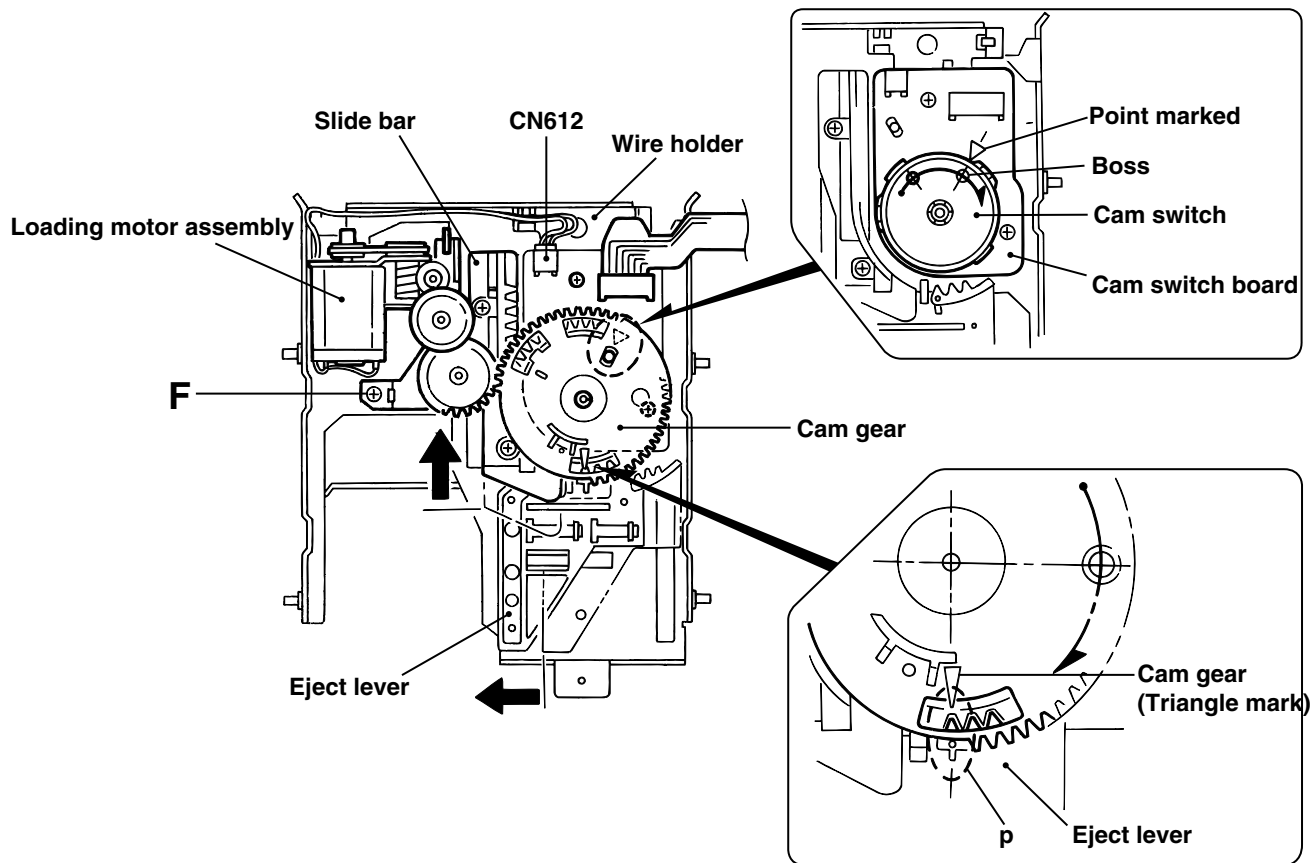

Fig.23
5. Reattach the cam switch board using the two screws **H**. (**Fig.23**)
6. Turn the cam switch to bring the boss to the point marked Δ on the cam switch board. Reattach the cam gear using a slit washer while fitting the cam gear slot to the cam switch boss. (**Fig.23**)
ATTENTION: When reattaching the cam gear, the cam switch boss should be fitted to the cam gear slot, and the triangle mark of the cam gear should be aligned to the hole(part **p**) of the eject lever as shown in **Fig.23**.
7. Reattach the loading motor assembly, using the screw **F**. Connect the harness extending from the loading motor to connector CN612 on the switch board and fix it with the wire holder. (**Fig.23**)